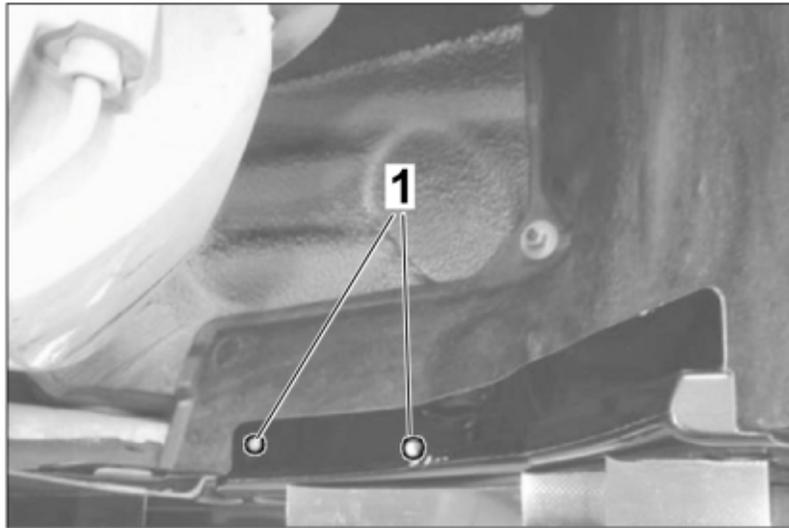

Figure 37
- 6.4.2 Fasten the air control element (rear) with two more ST4.8 x 16 tapping screws without collar in the area of the wheel arch (⇒ *Figure 37*).